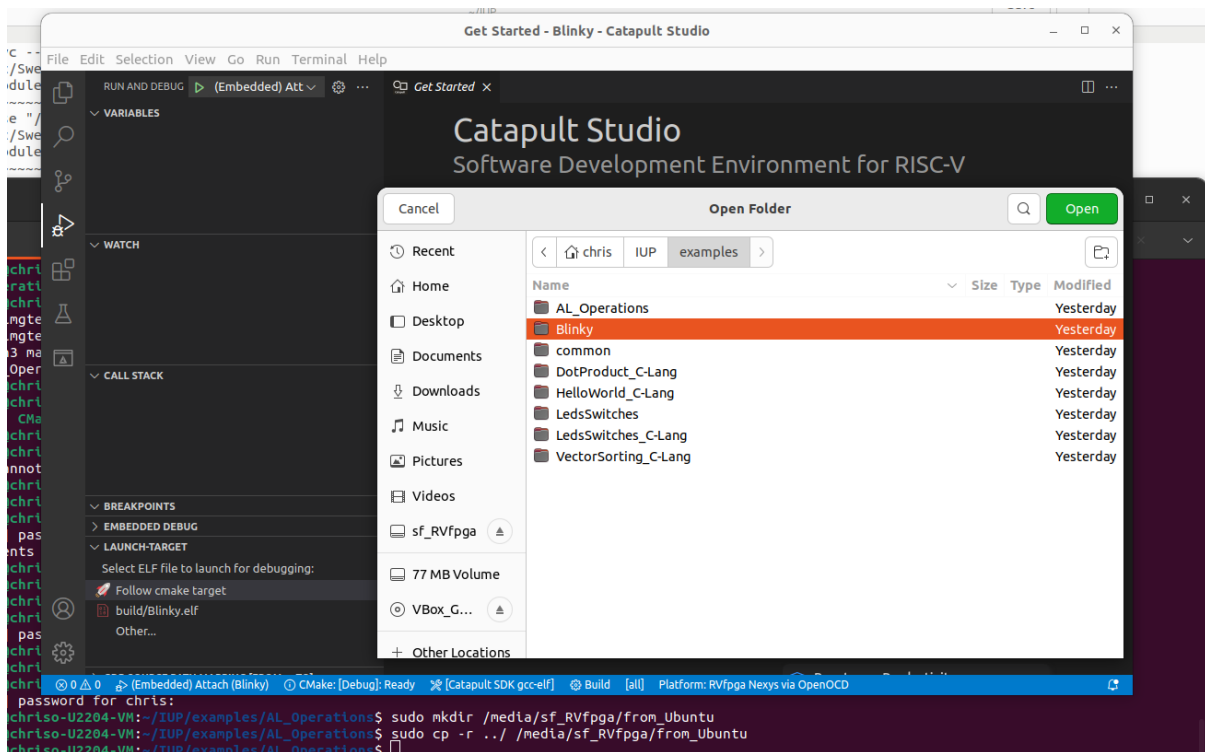

Figure 41. Blinky program folder
3. Select directory *Blinky* and click OK (Figure 41).